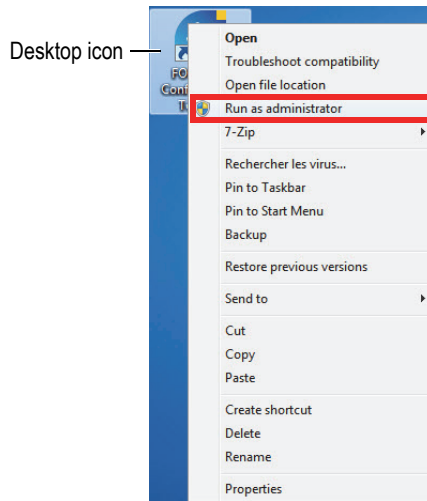

Figure 5-1 Opening the Configuration Tool
- ◆ On the desktop, right-click the Configuration Tool icon, and then click **Run as administrator** > **Yes** (see Figure 5-1 on page 20).